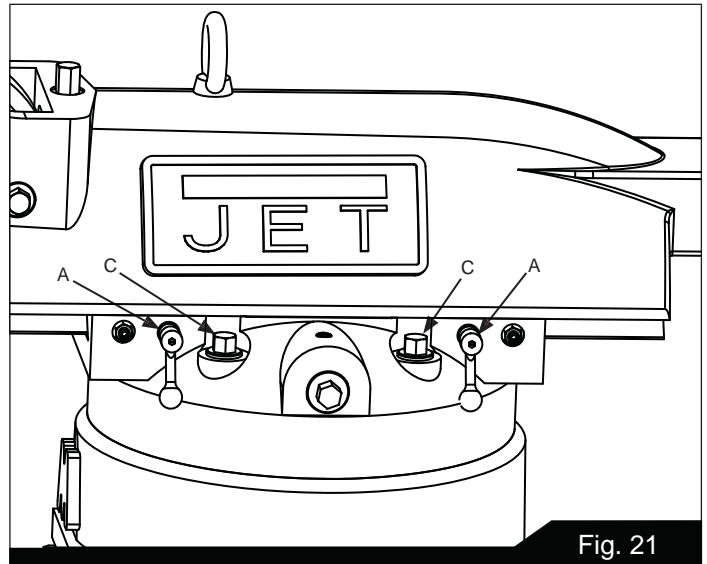

Fig. 21
1. Loosen the two bolts (A, Figure 21) that lock the ram to its ways.
2. Turn the lever (B, Figure 21) to move the ram on its ways.
3. When the desired position is reached, lock the bolts (A, Figure 21) securely.
1. Loosen four turret lock bolts (C, Figure 21) that clamp the ram to the top of the base. 1/2 turn should be sufficient to allow the turret to move.
3. Tighten the four turret lock bolts (C, Figure 21).